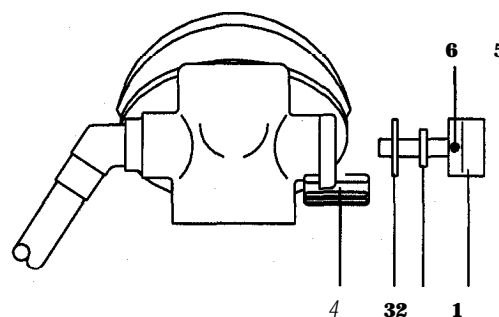

Figure 7
- Remove O-ring (5) from bypass button.
- Use a small screwdriver and remove the two small screws (6) located on the bypass button (1) and remove the bypass assembly. (Figure 7)
- Remove circlip (2) using finepoint circlip pliers and remove washer. (3) (Figure 7)
- Hook axial arm of spring into radial slot in lever (4) (Figure 7) but not onto hexagon,
(4) (Figure 7) Lever should return easily.
- Refit washer (3) and new circlip (2) (Figure 7).
- Insert bypass assembly (1) (Figure 7) and snug small screws. Ensure bypass operates smoothly.
- If fitted, check action of positive pressure mechanism. i.e., press reset lever (4) (Figure 7) checking that balanced piston spring loaded lever lifts and holds in position after releasing reset lever.
- Press reset lever (4) (Figure 7) to lift diaphragm towards bayonet cap ▪ release reset lever checking that diaphragm remains in position. Gently press center of diaphragm to ensure that it releases and retracts. Repeat action.
- Press lever (4) (Figure 7) to check action and ensure lever returns easily after releasing.